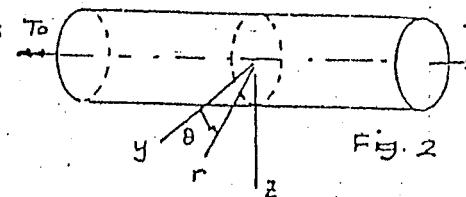

Fig. 2
2. Suppose the stress distribution on a cross-section of the circular cylinder of Fig. 2 is given by $\sigma_{xx} = \sigma_{zz} = 0$, $\sigma_{x\theta} = k\sqrt{r}$, where k is unknown. What is the value of k in this case?